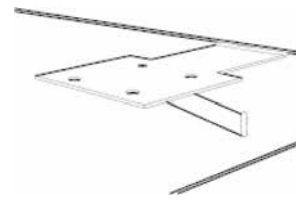

FIGURE 1
Observe the fluid in the tank to find a non-turbulent area above which a mounting bracket to support the Oil Belt Skimmer can be located. Make certain that the location chosen is such that the Oil Belt Skimmer will not be sprayed on or dripped on by coolant, oil or other liquids. Attach a mounting bracket to the tank wall, as shown in Figure 1. A mounting bracket is available from Eriez.
2. Attach the oil collection tray to the frame using the supplied 6-32 screws, nuts, and washers in the two holes on the frame below the motor enclosure that are on an angle (See Figure 1 under Parts List).